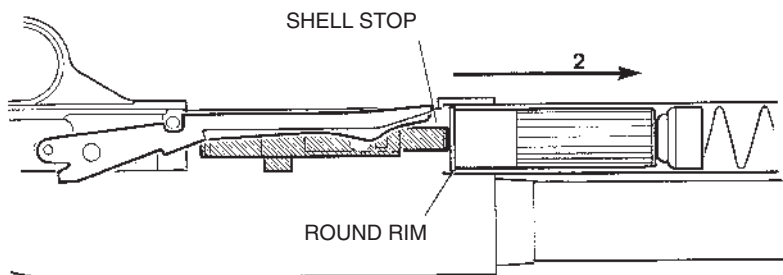

Figure 7
2. Continue carefully pushing the round into the magazine tube until the rim of the round is past the shell stop (Figure 7). The shell stop will “snap” over the rim of the round. Repeat this sequence to load each additional round.